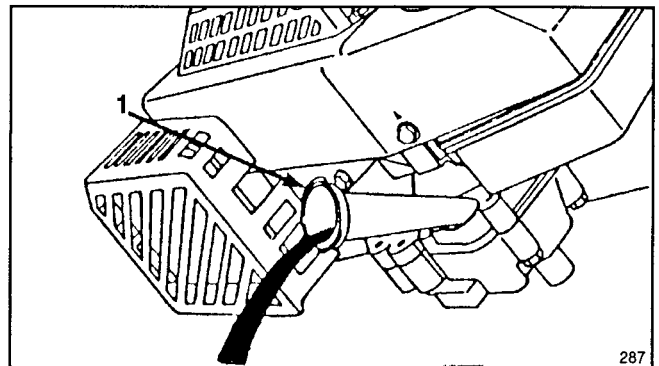

Figure 20
4. Tip mower on its left side, allowing oil to drain into drain pan (Fig. 20).